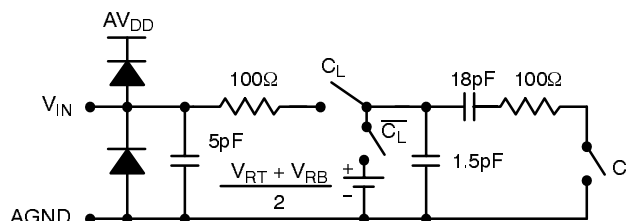

Figure 8. Equivalent Input Circuit
- ⁵ See V_{IN} equivalent circuit (Figure 8.). Switched capacitor analog input requires driver with low output resistance.
This part has a switched capacitor type input circuit. This means that the input impedance changes with the phase of the input clock. Figure 8 shows an equivalent input circuit.